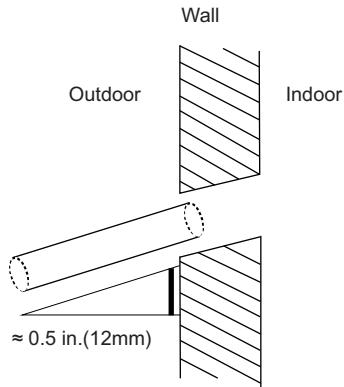

Fig. 32 — Drill hole
- Use a 1" core drill to drill a hole in the wall. Make sure the hole is drilled at a slight downward angle, so that the outdoor end of the hole is lower than the indoor end by about 0.5in (12mm) (see Figure 32). This will ensure proper water drainage. Place the protective wall cuff in the hole. This protects the edges of the hole and helps seal the hole once the installation is complete.